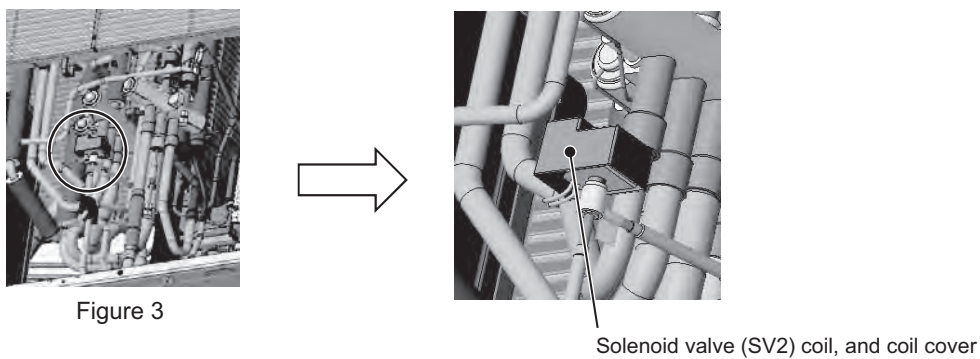

Figure 3
- (2) Remove the coil (four-way valves (21S4a, 21S4b, and 21S4c), and solenoid valve (SV2)), coil cover, and wiring. (See Figure 3.)